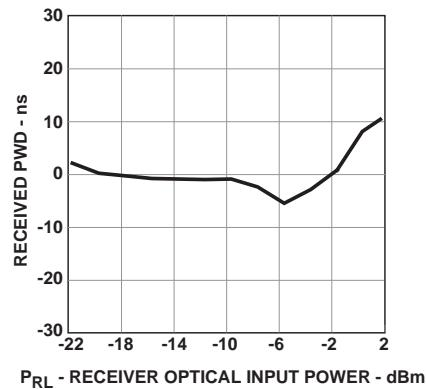

Figure 8. Typical POF receiver pulse width distortion vs. optical power at 12 MBd
3. Receiver overdrive ($P_{RL,max}$) is specified as the limit where $|\text{PWD}|$ will not exceed 30 ns. The receiver will be in the correct state (logic “0”) for optical powers above $P_{RL,max}$. However, it may not meet a 30% symbol period PWD if the overdrive limit is exceeded. Refer to Figure 8 for PWD performance at high received optical powers.